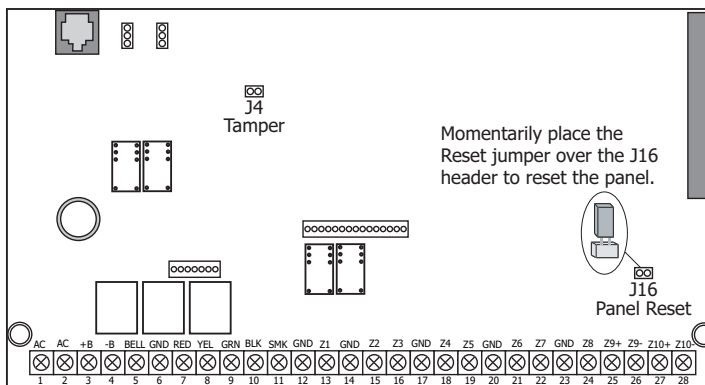

Figure 1: XR200 Panel Showing Reset
1. Install the reset jumper across the two J16 reset pins for two seconds. See Figure 1.